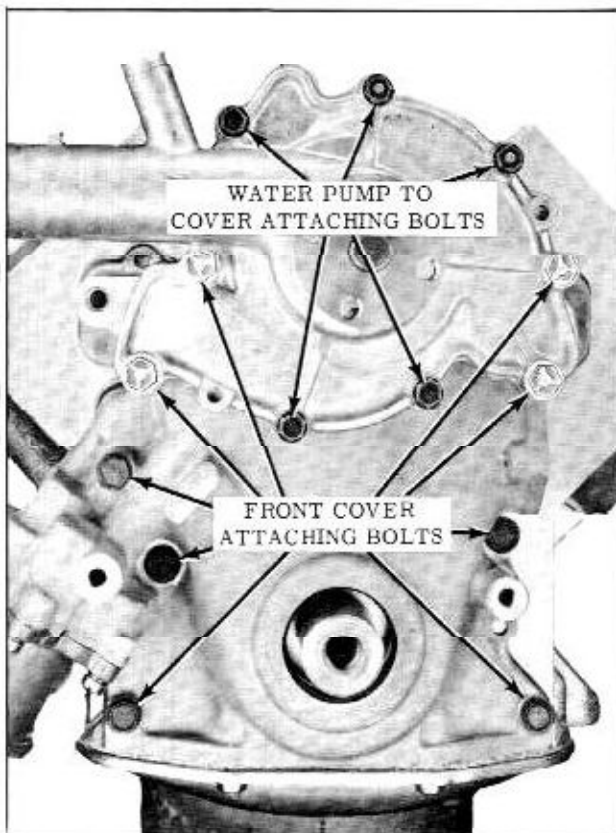

Fig. 8-35 Engine Front Cover Bolts
7. Remove 9 cover to block attaching bolts and remove cover. (Fig. 8-35)